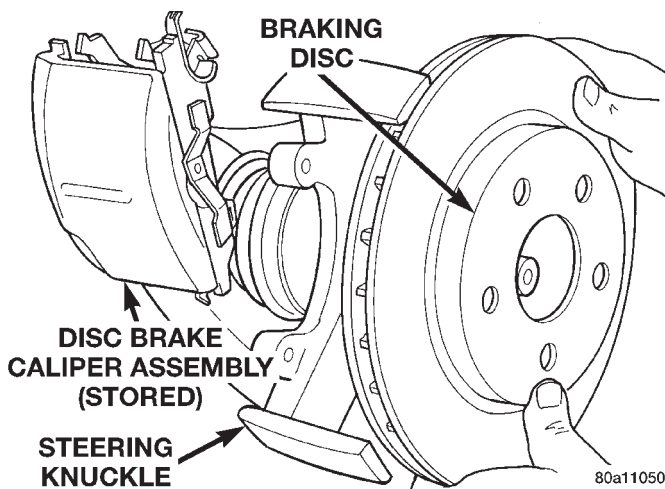

Fig. 81 Removing/Installing Front Braking Disc
(6) Remove the rotor from the front hub (Fig. 81).
(2) Tighten the wheel lug nut, pulling the wheel stud into the flange of the hub and bearing assembly. When the head of the stud is fully seated against the bearing flange, remove lug nut and washers from wheel stud.
(3) Install the rotor back on the front hub/bearing (Fig. 81).